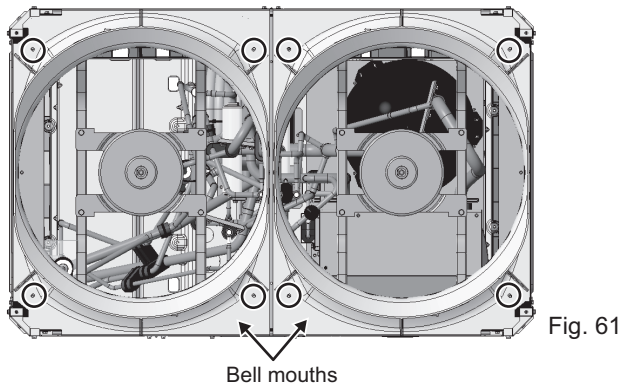

Fig. 61
(8) Remove the bell mouth. (Eight screws: Fig. 61)